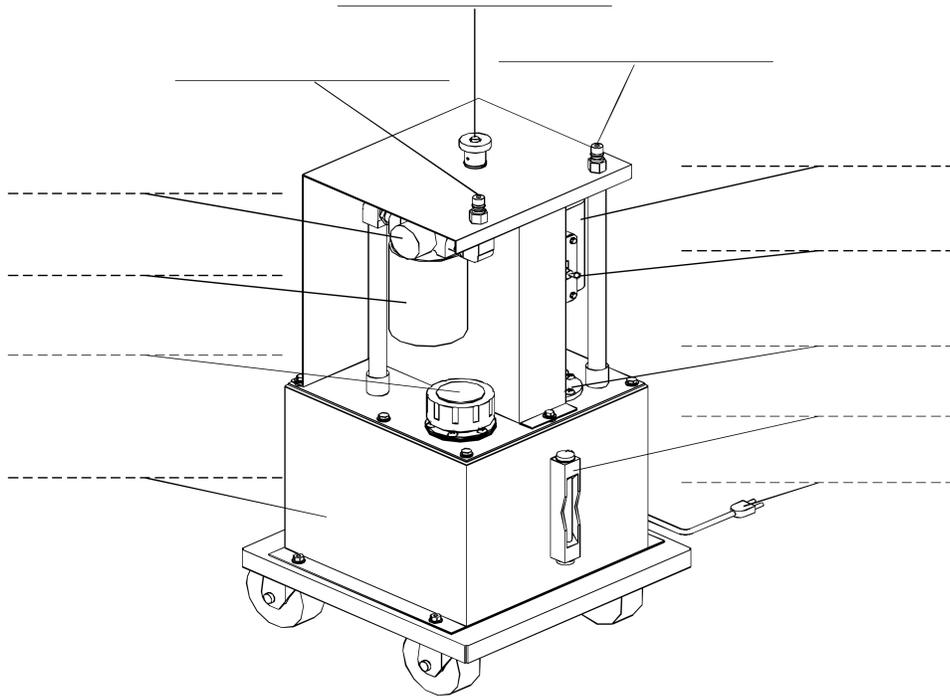

Figure 1-9. Identifying the Power Unit components.
- 1. Inspect your hydraulic Power Unit. To do so, identify the various components of the unit by writing the appropriate names in the blank spaces of Figure 1-9. Then, physically locate each component on your Power Unit.